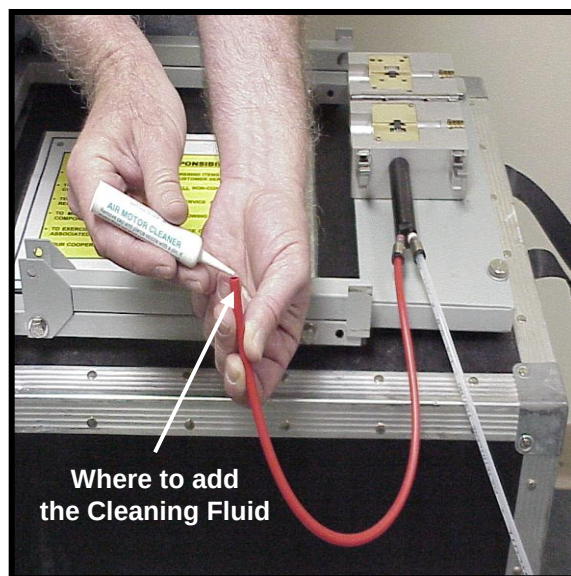

Figure 33
13.2.3 The Cleaner Fluid application procedure begins by uncoupling Red 1/4" tubing from Filter /Regulator Assembly. Add 3 - 4 drops into open end of Red 1/4" tubing and re-connect to Filter/Regulator Assembly. See Fig. 33.